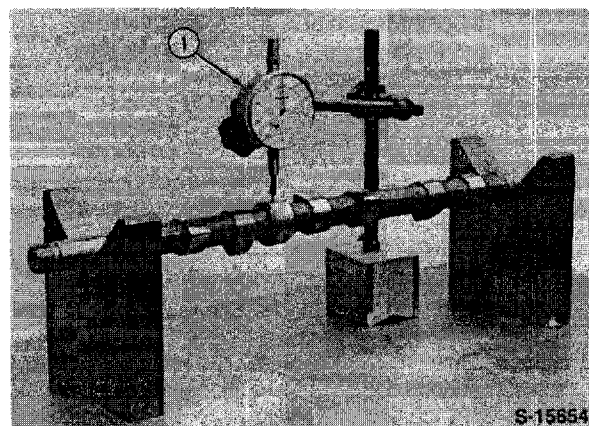

Figure 84
1. Place the camshaft in a set of V-blocks and check the runout using a dial indicator, Figure 84.